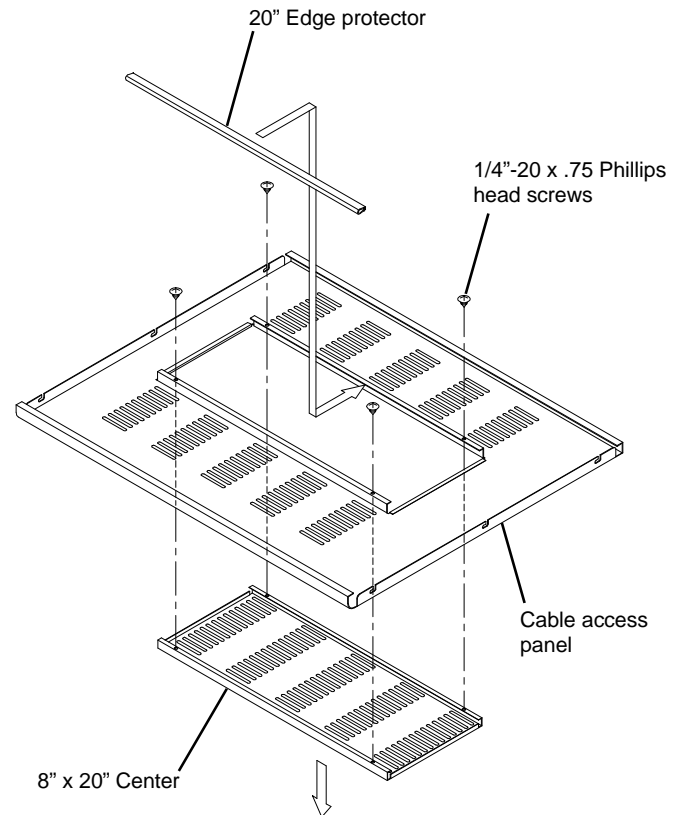

Figure 5
4. For larger amounts of cable, remove the 8" x 20" **Center** (four screws). Taped to the Top/Bottom panel are two **20" Edge Protectors**. Put them on the now exposed edges. Store the 8" x 20" Center at the bottom of the module. See **Figure 5**.
Repeat this procedure to install the Bottom onto the Side Panels. **NOTE:** The Top/Bottom Panel reverses at the bottom position (upside down). See **Figure 5**.